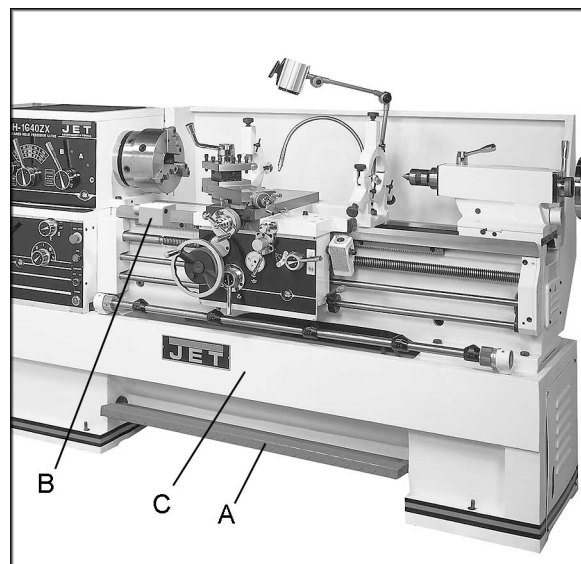

Figure 15
21. **Foot Brake (A, Figure 15):** The connecting rod mechanism is in the bed stand. The braking device is in the pulley of the headstock. Press the pedal to stop all lathe functions. (**Caution:** Lathe still has power.)
22. **Micro Carriage Stop (B, Figure 15):** can be used during manual feed operation. The dial can be turned for fine tuning the position of the stop. The micro carriage stop can be moved along the bed by loosening the two socket head cap screws underneath the stop.
23. **Bed Cover (C, Figure 15):** can be easily removed to clean out the stand.